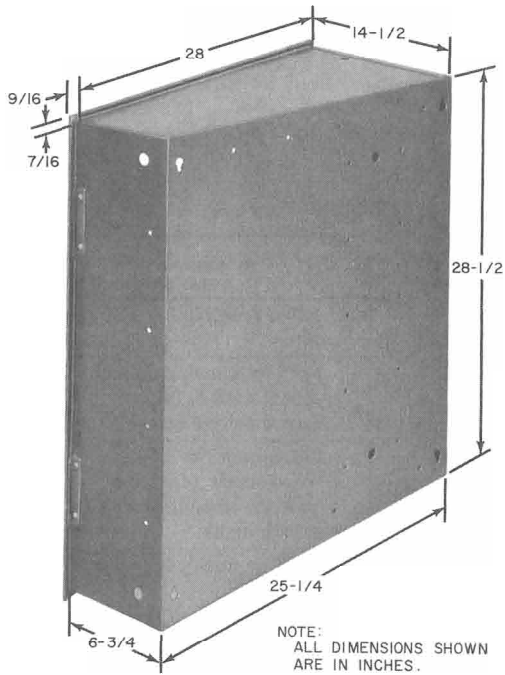

Fig. 6—Rear View of Housing
- (b) Refer to Fig. 6 and 7 for dimensions and cut hole in wall to accept housing. Minimum depth shall be 15 inches.